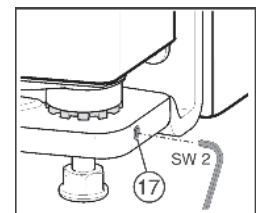

Fig. 30
- ▶ Unscrew the threaded pin *Fig. 30 (17)* a little (no more than one turn).
- ▶ Screw the threaded pin *Fig. 30 (17)* in again to fix the bearing pin.